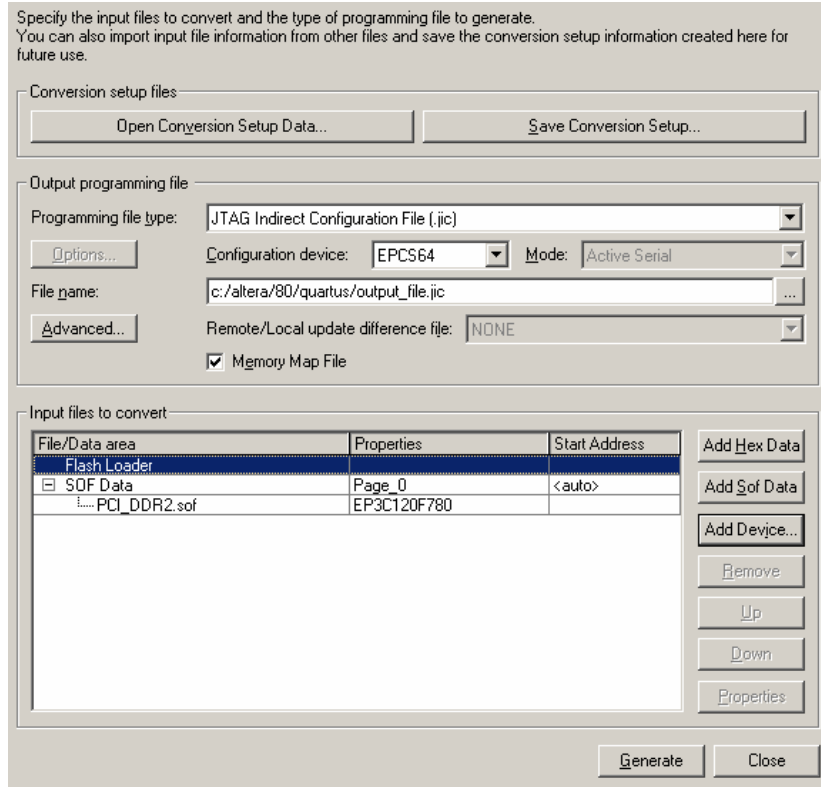

Figure 0.2. Highlight Flash Loader
7. Select the “**Add Device**” in the Input files to convert section, as showing in Figure 0.2.